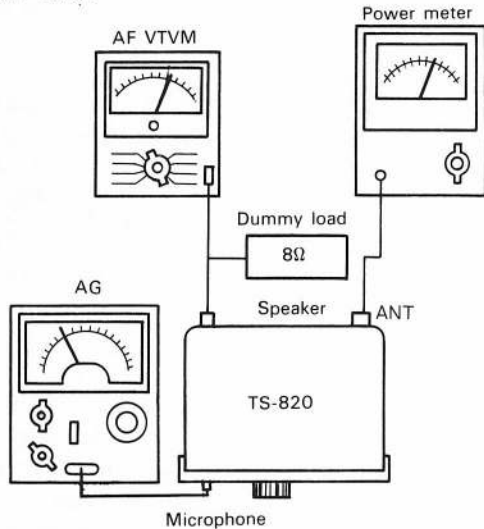

Fig. 38 Adjustment of monitor level
- 1) If Fig. 38, make adjustment until full power is obtained at 14.175 MHz, CW, and set the MODE switch to SSB \dot{c} (or LSB).